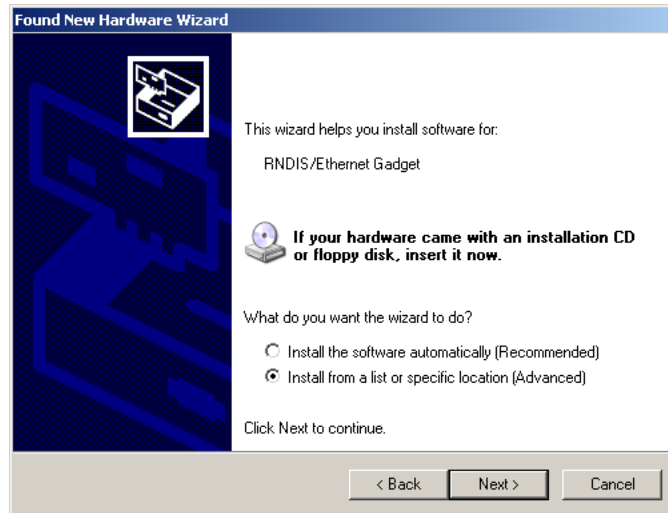

Figure 6. Found New Hardware Wizard – Install Software Window
1. Select **No, not this time** and click **Next**. The Found New Hardware Wizard – Install Software window opens (see Figure 6).